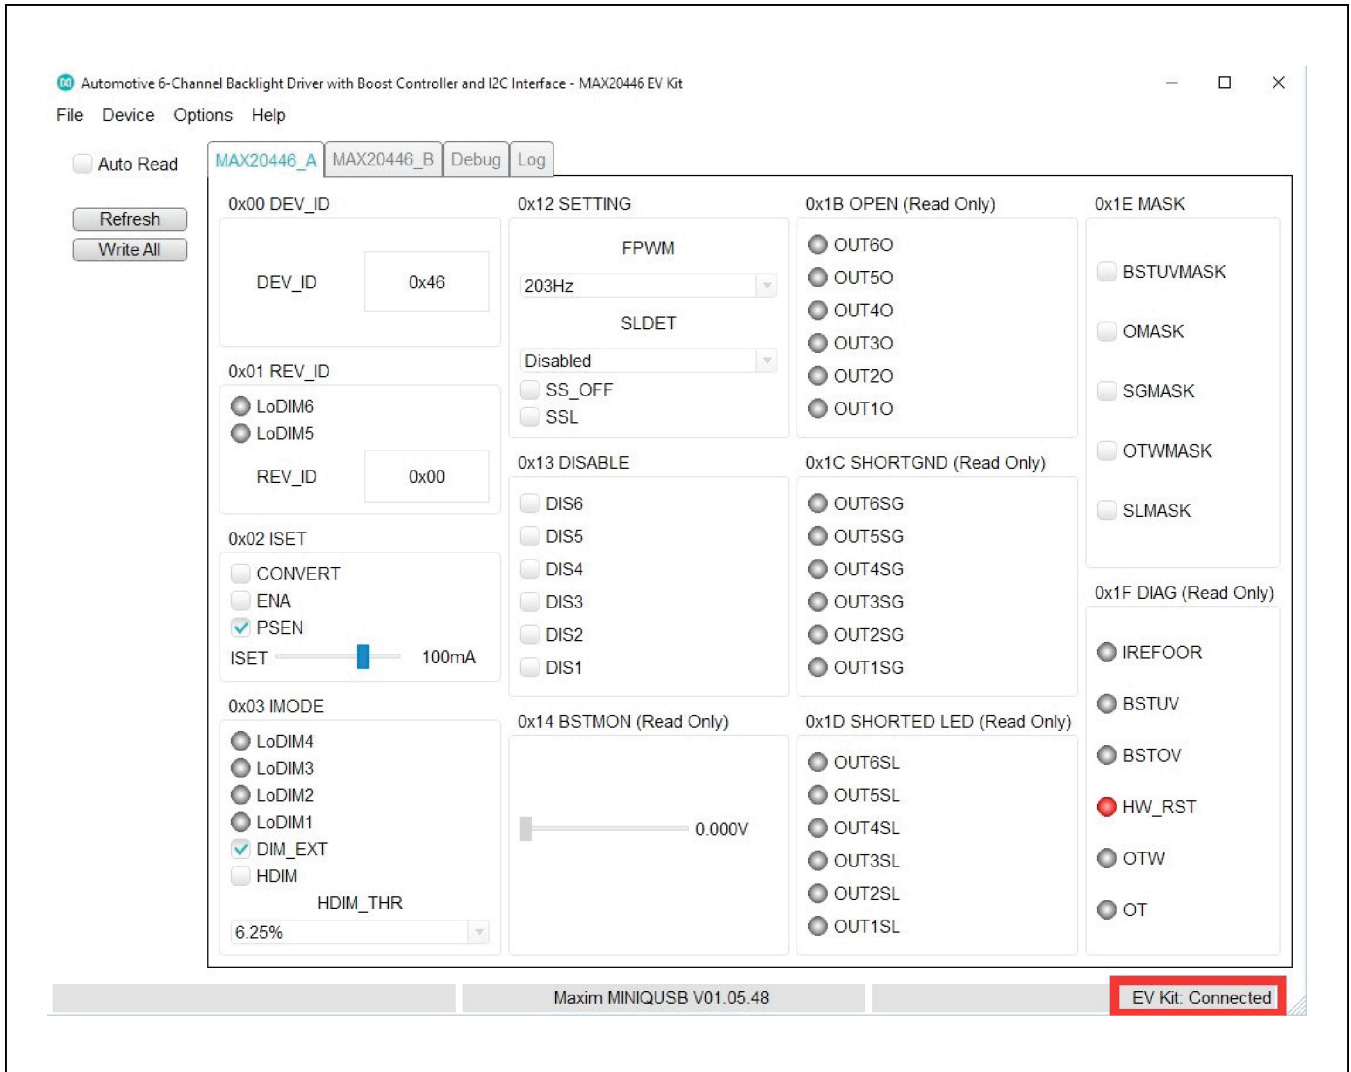

Figure 1. MAX20446 Evaluation Kit Software (GUI)
- 17) Verify that the status bar in the bottom-right corner of the GUI displays **EV Kit: Connected**, as shown in Figure 1.